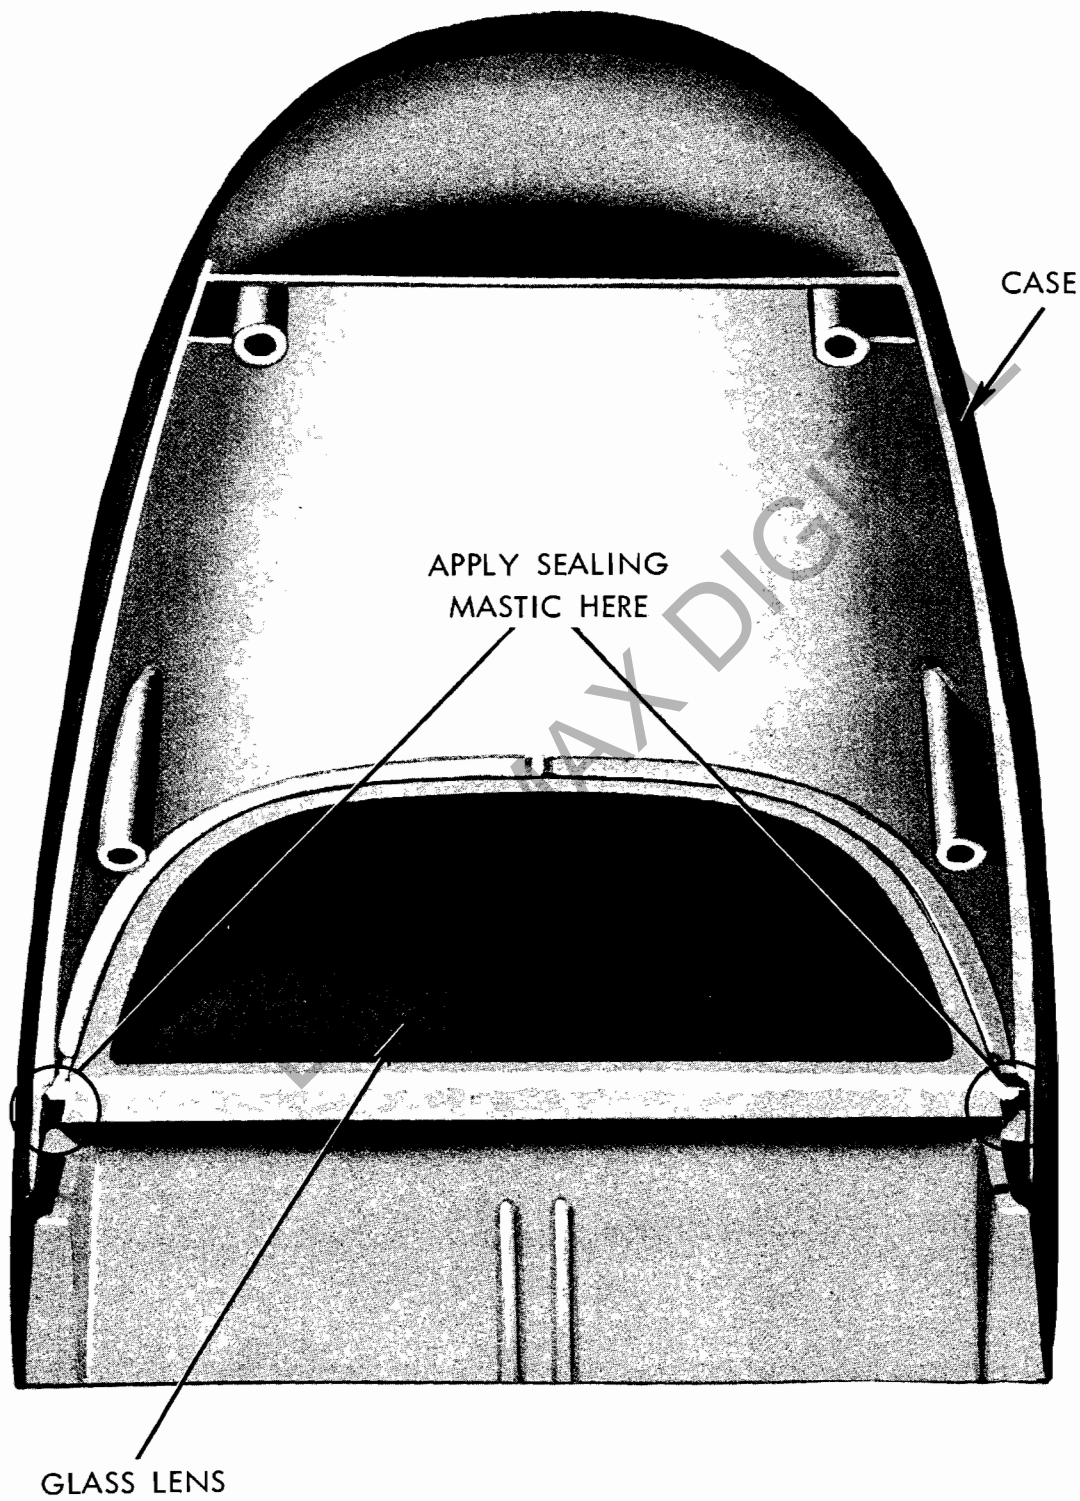

FIGURE 6
- a. Illumination wire (2) is grey
5. In rare cases water leakage complaints may develop on early production 1967 Pontiac hood tachometers. If the tachometer is being serviced for any reason, apply windshield sealing mastic to area indicated as shown in Figure 6. For 1968 and 1969 applications, follow similar procedure resealing tachometer housing.